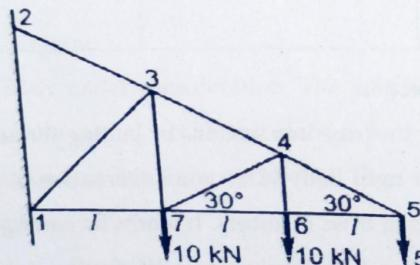

Fig 2.100
- 2) The cantilever truss is shown in fig 2.100. Find the magnitude and nature of forces in the members 3-4, 4-7, and 6-7 by the method of section. (Ans: 3-4= 20kN, 4-7=10kN, 6-7=8.66kN)